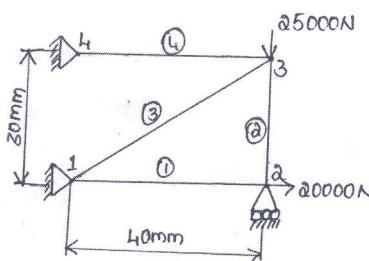

Fig. Q3 (b)
- b. Consider the four bar truss shown in Fig. Q3 (b). It is given that $E = 2 \times 10^5$ N/mm² and $A_e = 100$ mm² for all elements. Determine the nodal displacement and stress in each element.